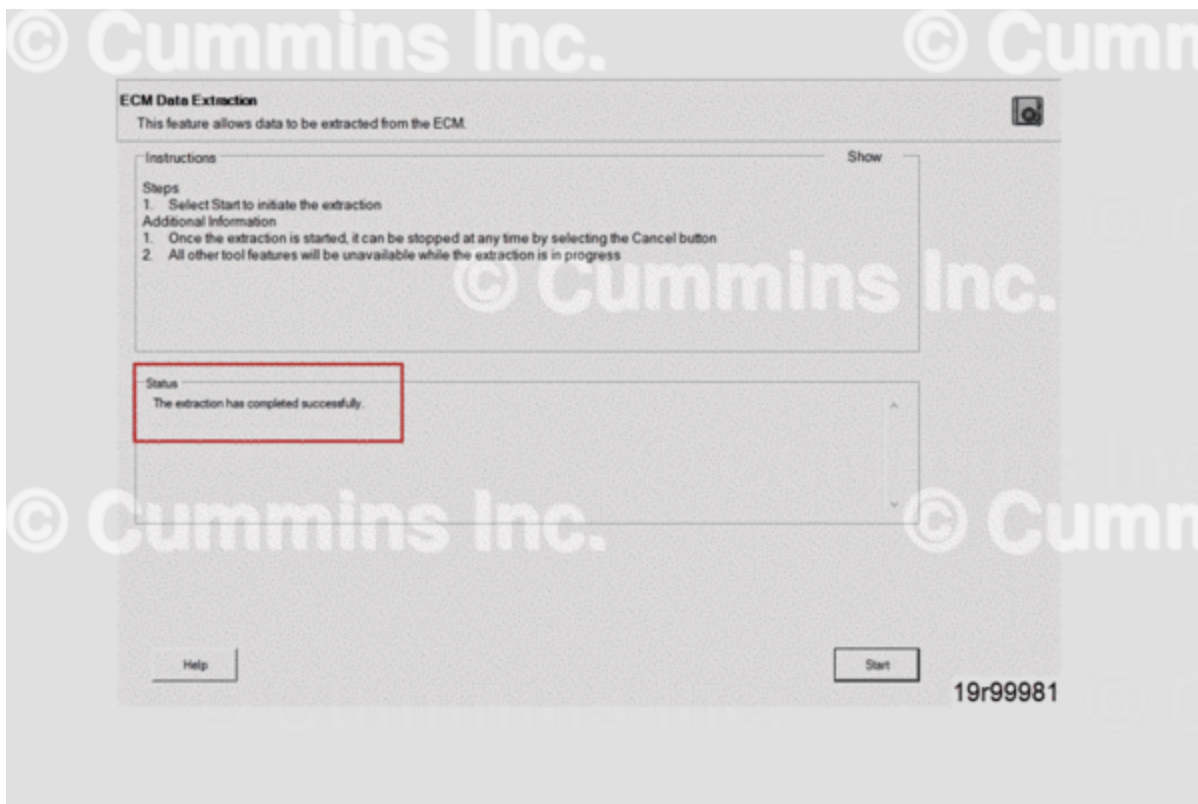

Figure 3, Status Window.
- Once the data extraction is complete the status window will show the extraction was completed. See Figure 3.